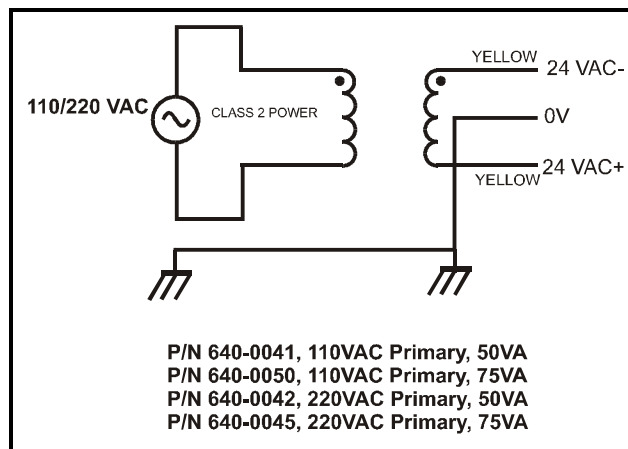

Figure 2-7 - Non-Center-Tapped Transformer Wiring
*Figure 2-7* shows how to wire the transformers to the MultiFlex boards.
In addition, the old-style MultiFlex combination boards can be powered by one of the 50VA or 75VA non-center-tapped transformers listed in *Table 2-1* on page 5. *Figure 2-7* shows how to wire the transformers to the MultiFlex boards.